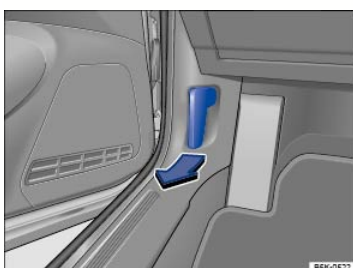

Fig. 196 In the footwell on the driver side: Inside engine hood release lever.
- Open the driver door and pull the inside hood release lever in the direction of the arrow ⇒ **Fig. 196**. The engine hood is released from its latch by a spring ⇒ .